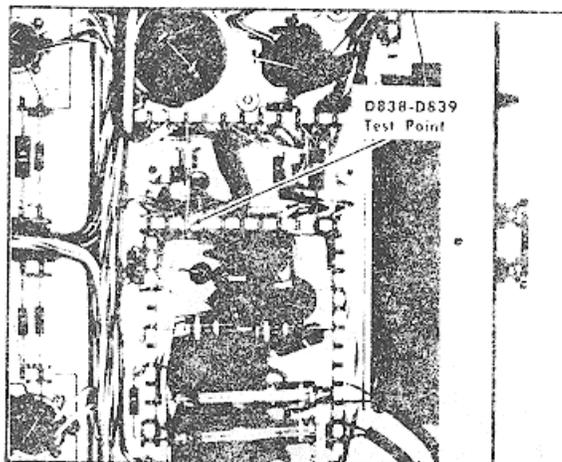

Fig 6-9. Location of D838-D839 test point (bottom view).
- a. Connect the voltmeter from the D838-D839 test point (Fig 6-9) to chassis ground.